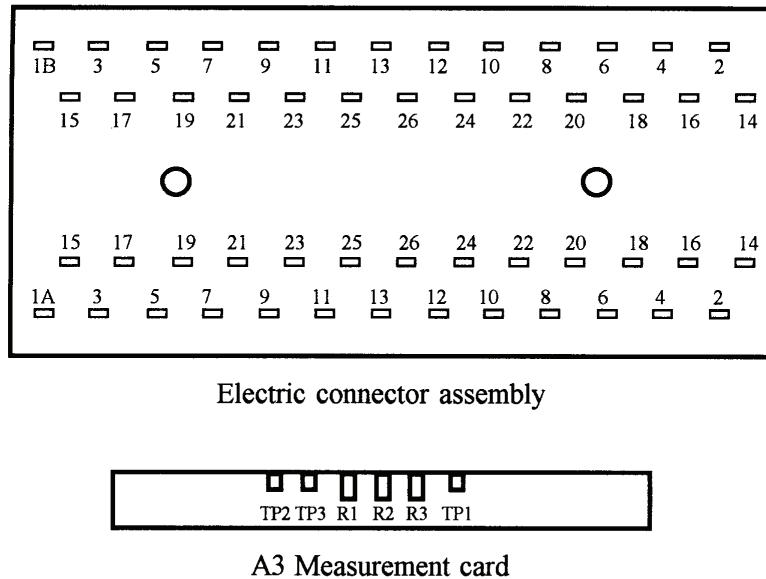

Figure 1. Test and connection points and adjustments.
- (1) Set the **FUNCTION** switch to **CONT. P.**
- (2) Set the **CABLE LENGTH** switch to **250.**
- (3) Set **AUTO/SINGLE** switch to **SINGLE.**
- (4) Press the **RESET** pushbutton.
- (5) Set resistance standard No. 2 for 20.4 Ω and connect between pins 1A and 1B (fig. 1) of the electric connector assembly (connected to end of adapter cable).
- (6) Press the **ADVANCE** pushbutton once to test circuit **01.** TI **TEST** light and **FAULT** light will be on; if not, perform **b** below.
- (7) Press the **RESET** pushbutton and set resistance standard No. 2 for 19.6 Ω .
- (8) Press the **ADVANCE** pushbutton once to test circuit **01.** TI **FAULT** light will remain off; if not, perform **b** below.
- (9) Press the **RESET** pushbutton.
- (1) Set **POWER** switch to **OFF** and disconnect power cable from ac power source.
- (2) Remove TI from its casing. Remove the end plate (located near the interface connector J100). Ensure that potentiometers R1, R2, and R3 and the test points TP1, TP2, and TP3, located on A3 measurement card, are readily accessible (fig. 1).
- (3) Reconnect TI to ac source and set **POWER** switch to **A.C.**
- (4) Set the **FUNCTION** switch to **CONT. P.**
- (5) Set the **CABLE LENGTH** switch to **250.**
- (6) Set **AUTO/SINGLE** switch to **SINGLE.**
- (7) Press the **RESET** pushbutton.
(8) Press the **ADVANCE** pushbutton once; circuit **01** will be under test, **FAULT** light and **TEST** light should be on.
(9) Set resistance standard No. 2 for $20.0\ \Omega$ and connect between pins 1A and 1B (fig. 1) of the electric connector assembly (connected to end of adapter cable).
(10) Monitor dc voltage at TP2 with the multimeter using the cage as the ground reference.
(11) Adjust R1 so that the voltage at TP2 is about 2.5 V (this voltage is unstable and just between the high and low crossover points) (R).
(12) Press the **RESET** pushbutton and disconnect resistance standard No. 2.
(13) Set **FUNCTION** switch to **IR (0.1M)**.
(14) Set **AUTO/SINGLE** switch to **SINGLE**.
(15) Press the **ADVANCE** pushbutton once; the **TEST** light should be on and the **FAULT** light should be off.
(16) Set resistance standard No. 2 for $100\ \text{k}\Omega$ and connect between pins 1A and 1B (fig. 1) of the electric connector assembly (connected to end of adapter cable).
(17) Use the multimeter to measure dc voltage at TP1, with the cage as ground reference. The voltage should be about 900 mV; record the exact reading.
(18) Monitor the dc voltage reading at TP3; if it is different from that at TP1, adjust R3 so that voltage at TP3 is the same ($\pm 1\ \text{mV}$) as that at TP1 (R).
(19) Press the **RESET** pushbutton and disconnect resistance standard No. 2.
- (20) Set **FUNCTION** switch to **IR (10M)**.
- (21) Set **AUTO/SINGLE** switch to **SINGLE**.